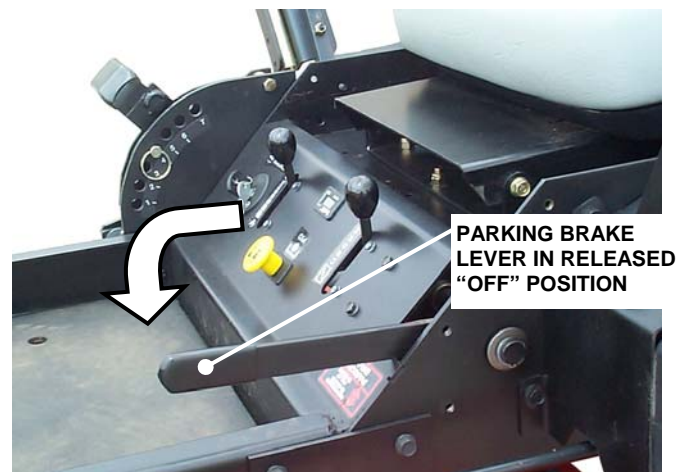

FIGURE 3.9
2. Release parking brake by pushing parking brake lever forward to the released position. See Figure 3.9.